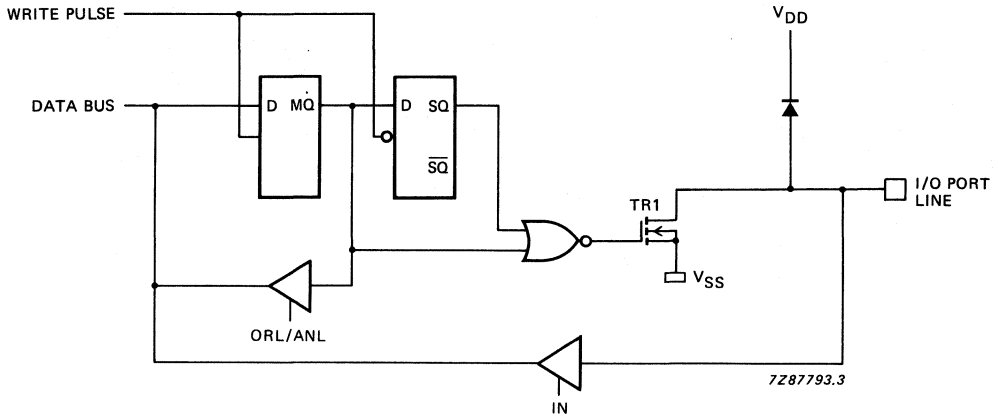

Fig. 12 Open drain output.
2. OPEN DRAIN: quasi-bidirectional I/O with only an N-channel open drain output. Application as an output requires connection of an external pull-up resistor (Fig. 12). When an open drain port is unused it must be connected to  $V_{SS}$ .